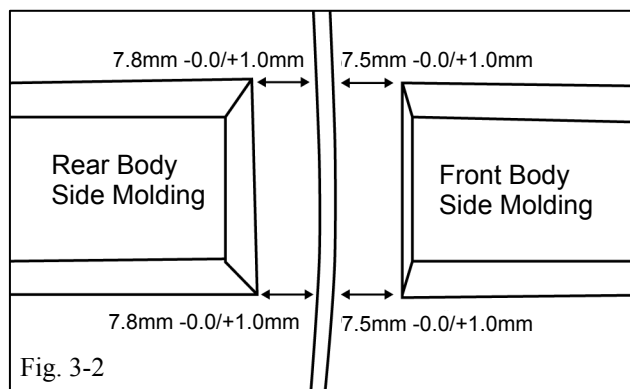

Fig. 3-2
- (c) The opening between the doors should look like Fig. 3-2. Tolerance for flushness in the vertical direction of the front and rear molding in relation to each other is 0.0mm +/- 1.0mm.
- (d) Place the rear edge of the front molding **7.5mm** from the rear edge of the front door (Fig 3-2). Ensure that the 7.5mm minimum distance is carefully measured.
- (j) Place the front edge of the rear molding **7.8mm** from the front edge of the rear door (Fig 3-2). Ensure that a minimum 7.8mm distance is maintained.